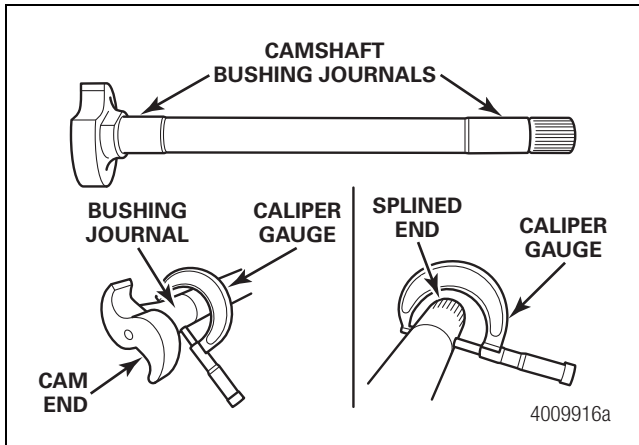

Figure 4.7
- Use a 1-2-inch machinist's caliper to measure the bushing journals on each camshaft. Take the measurement in multiple positions on the bushing journals as the camshaft and bushing may wear unevenly. Camshaft journal diameter must be no less than 1.490-inches (37.846 mm). Figure 4.7.